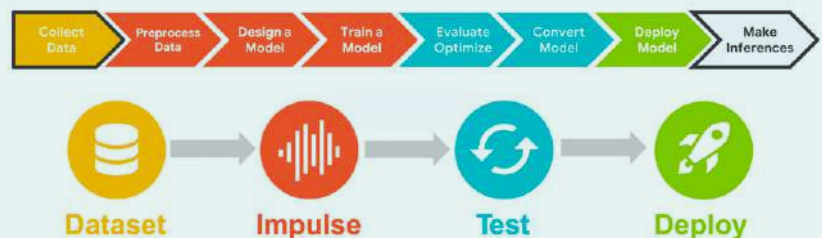

Figure 1: Typical TinyML workflow. (source: TinyMLedu)
TinyML is a subfield of machine learning (ML) focused on developing models that can be executed in real-time, low-power, and low-cost embedded devices [1]. Development of TinyML models follows the typical ML process as shown in **Figure 1**, with the difference that *inference* takes place on embedded devices rather than on traditional computational devices or cloud-based services.